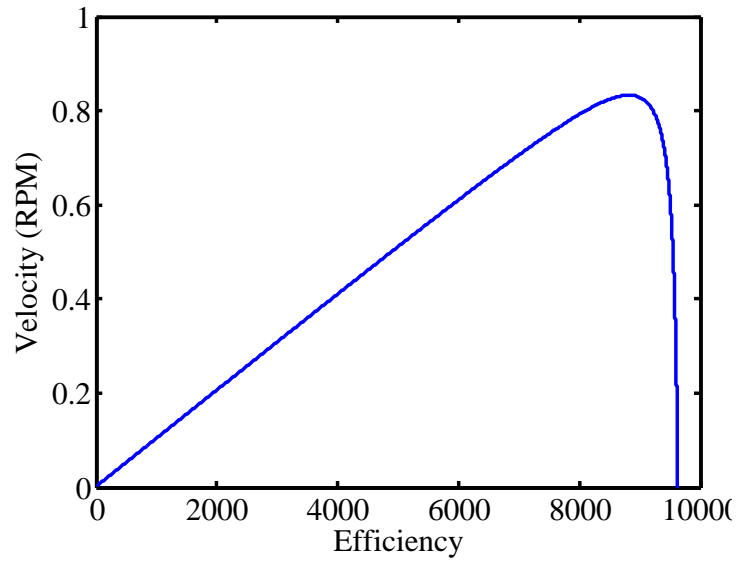

Figure 2: *Efficiency as a function of Angular Velocity for a Maxxon Amax 22 running at 6 Volts.*
The most efficient velocity occurs for values of  $\theta$  larger than the maximum power velocity, i.e., torques smaller than the maximum power torque (see Figure 2). The maximum motor efficiency  $\eta_{me}$  is found by using  $\theta_{me}$  on equation (24).
is displayed in Figure 2. Using equations (24) and (25) we find